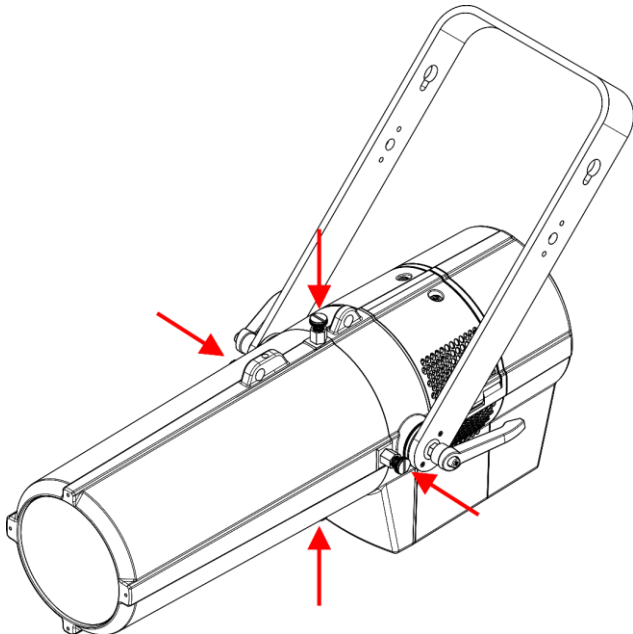
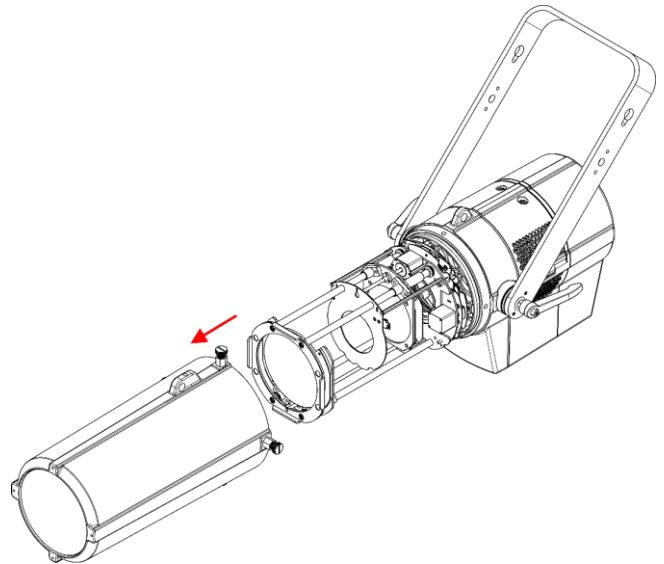

Fig. 07
Fig. 08
01) Loosen the 4 cover mounting screws (Fig. 07) and remove the cover (Fig. 08).